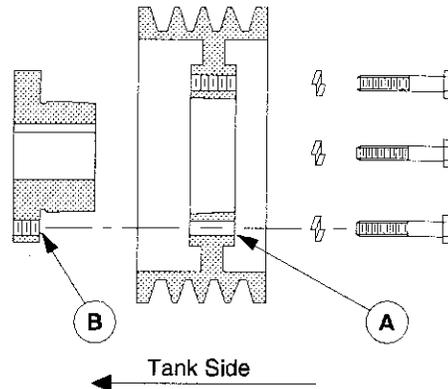
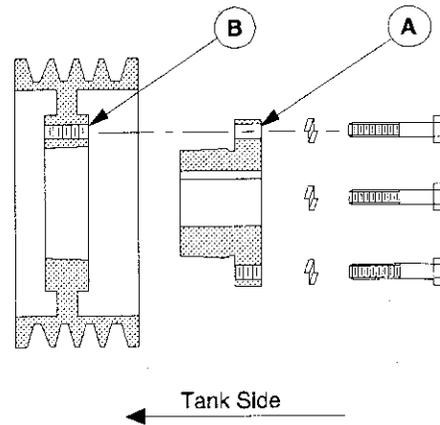

Figure 15: “Flange-In” Mounting
Figure 16: "Flange-Out" Mounting
2. Determine the bushing flange orientation that will provide the best shaft contact upon completion of installation, *i.e.*, “flange in mounting,” *Figure 15, page 21* or “flange out mounting,” *Figure 16, page 22*. The most desirable orientation is with the bushing “flange in” toward the tank.
1. Line up the clearance holes (A) in the sheave hub with the threaded holes (B) in the bushing flange, *Figure 15, page 21*. Insert the capscrews with lockwashers through the hub of the sheave and engage the threaded holes in the bushing flange.